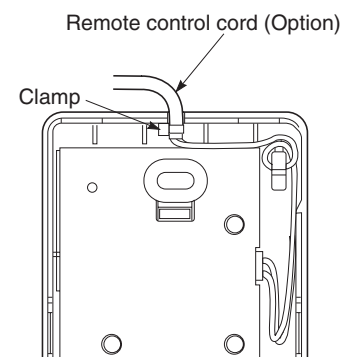

Fig. 5-18
- (5) After arranging the wiring on the printed circuit board as shown in Fig. 5-18 so that it is contained within the signal receiving unit, attach the back case. At this time, arrange so that the head of the clamp faces the side.
- (6) Remove the cover plate and install the signal receiving unit using the 2 wood screws.
- (7) Fasten to the wall using the cord clip (supplied).
- (8) Reinstall the cover plate.